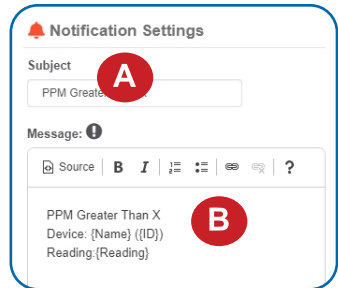

Figure 20
See Figure 20.
B. Customize the message body for the notification. See Figure 20.